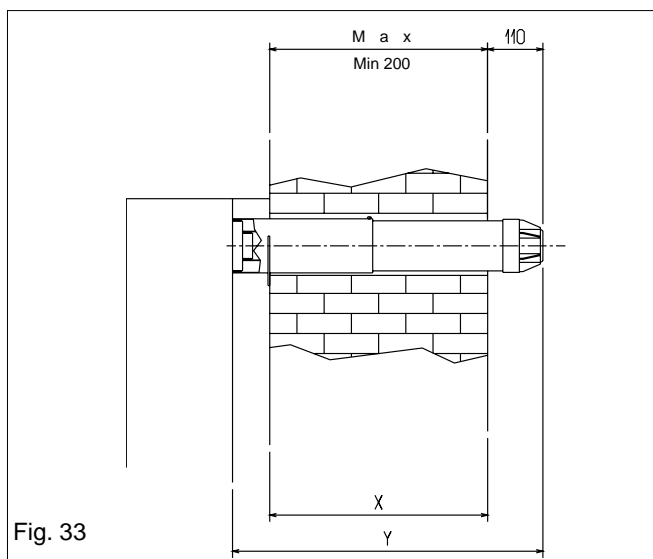
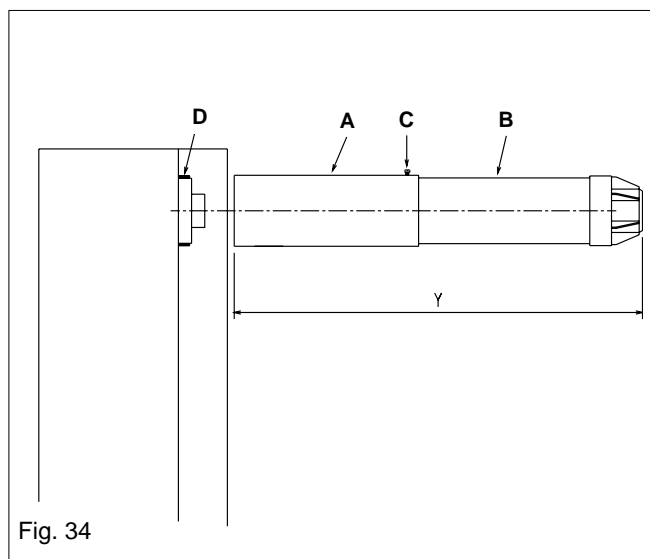
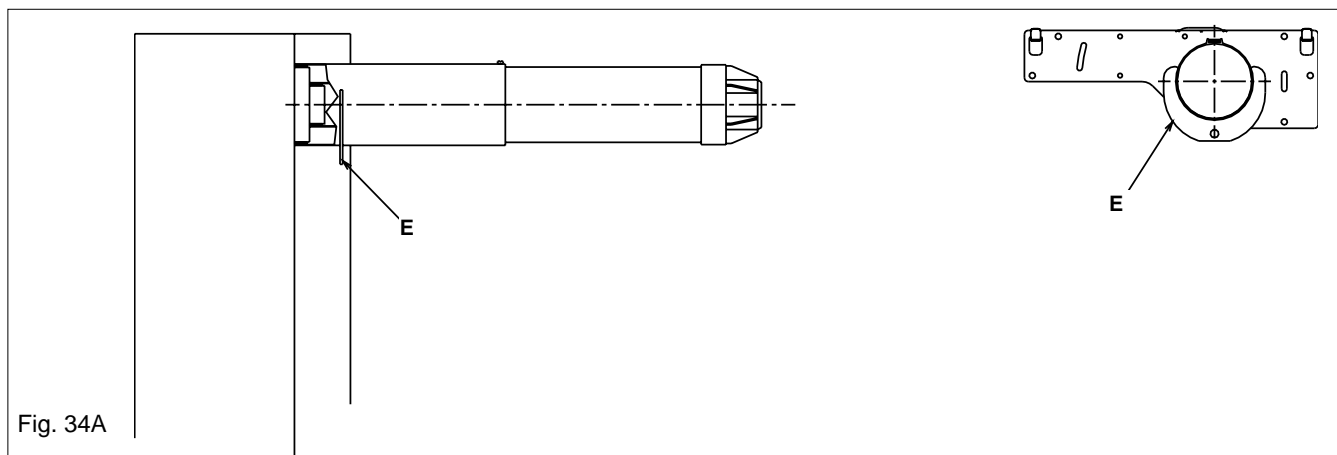

Fig. 33
Fig. 34
Fig. 34A
11.1 FITTING THE FLUE (see fig. 33)
Carefully measure the thickness of the wall (dimension **x** - fig. 33). Take the outer concentric flue pipe (**A**) and – using a twisting action – ease it over the inner concentric flue pipe (**B**) (fig. 34). Add 210 mm to 'x' to give you dimension 'y'. Push both the inner and outer concentric flue pipes together until the total length of the flue assembly is equal to dimension 'y'. Secure the flue assembly in place by using the screw provided (**C**).
Pull the flue assembly firmly towards and over the appliance flue spigot (fig. 34A) and – using a twisting action – ensure the correct seal is made. Insert the locking collar (**E**) into the groove on the flue assembly as shown in fig. 34 a and rotate to conceal.